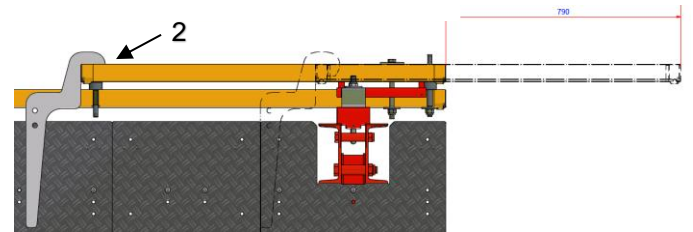

Abb. 13: Telescope tool LPS
10. Lead the telescoping tool LPS (2) between the screen element and hook into the telescope screen. (Fig. 13)